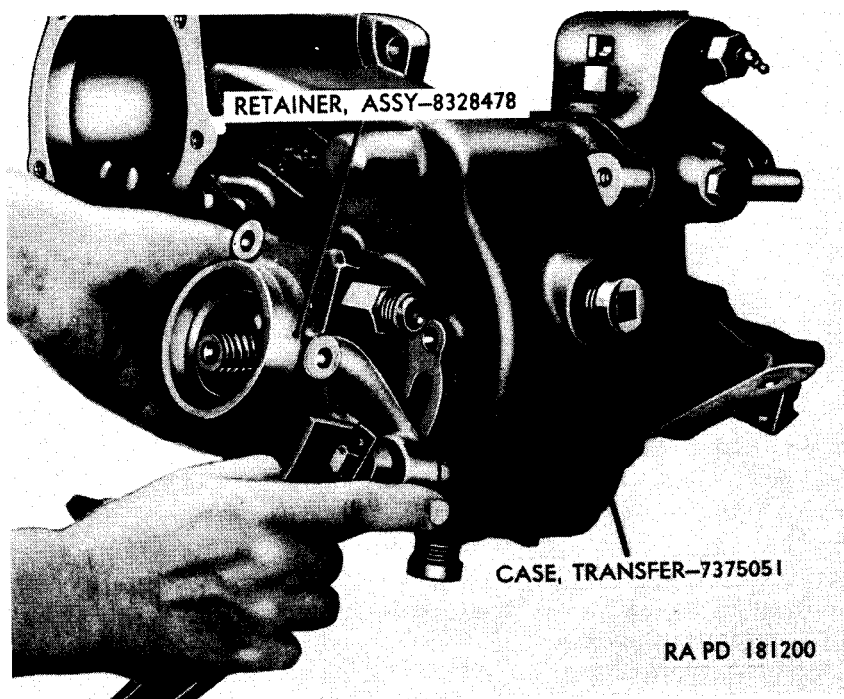

Figure 64. Removing transfer rear axle output shaft retainer with bearing assembly.
a. Remove four bolts and lockwashers which secure the rear axle output shaft retainer with bearing assembly to the transfer case and lift the retainer (fig. 64) from the transfer case.